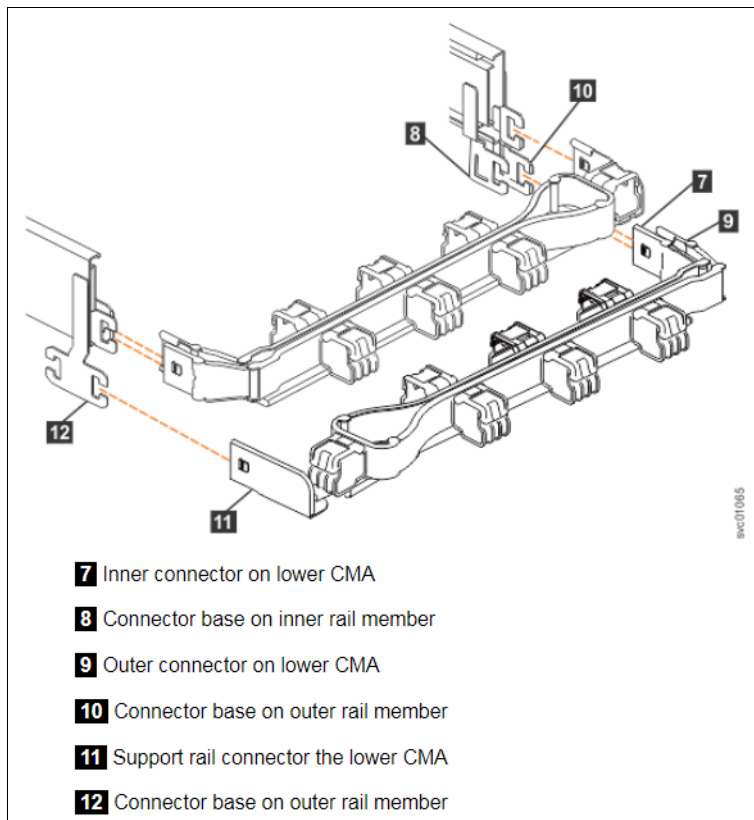

Figure 6-28 Comparison of upper CMA assembly and lower CMA assembly connectors
- c. Install the lower cable management arm assembly. The procedure for attaching the lower CMA assembly is the same as the procedure to attach the upper CMA assembly. However, the connector locations are reversed. For comparison, Figure 6-28 shows the upper and lower CMA assemblies as they are aligned to the support rails. The support rail connector of the upper CMA attaches to the right rail. The support rail connector of the lower CMA assembly **11** attaches to the left rail.
- i. Install the inner connector of the lower CMA assembly **7** to the inner member of the right support rail **8**, as shown in Figure 6-28.
- ii. Install the outer connector of the lower CMA assembly **9** to the outer member of the right support rail **10**, as shown in Figure 6-28 on page 185.
- iii. Attach the support rail connector on the lower CMA assembly **11** to the connector on the left support rail **12**, as shown in Figure 6-28 on page 185.